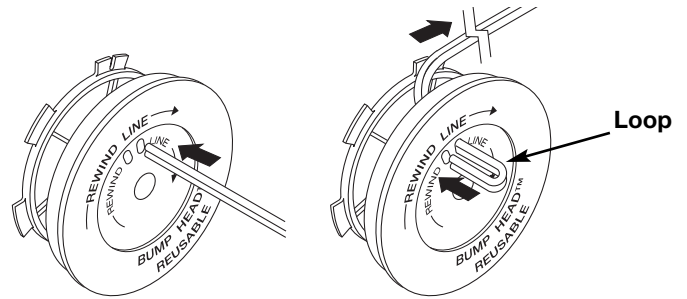

Fig. 22
- Take approximately 10 feet (3 m) of new trimming line. Insert one end of the line through one of the two holes in the inner reel (Fig. 22). Pull the line through the inner reel until only about 4 inches is left out.
- Insert the end of the line into the open hole in the inner reel and pull the line tight to make the loop as small as possible (Fig. 22).